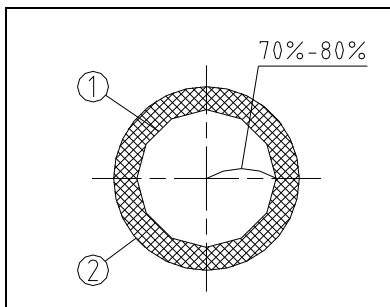

Fig.23
Adjust the aperture diaphragm adjusting ring (3) to control the size of diaphragm. Take off the eyepiece if necessary, observe from the eyepiece tube and adjust the aperture diaphragm adjusting ring (3) until see the figure as shown in Fig. 23 (see Fig. 23&24).